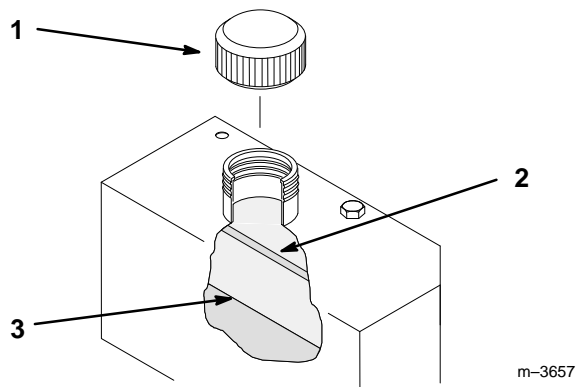

Figure 27
2. Clean area around filler neck of hydraulic tank (Fig. 27).
3. Remove cap from filler neck and look inside to check fluid level. Fluid level should be above the baffle inside the tank (Fig. 27).
4. If level is low, add fluid to raise level to above the baffle (Fig. 27).